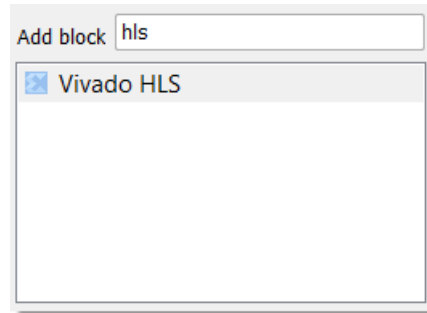

Figure 273: Selecting a Vivado HLS IP Block
5. Type "hls" in the Add Block field (**Figure 273**).